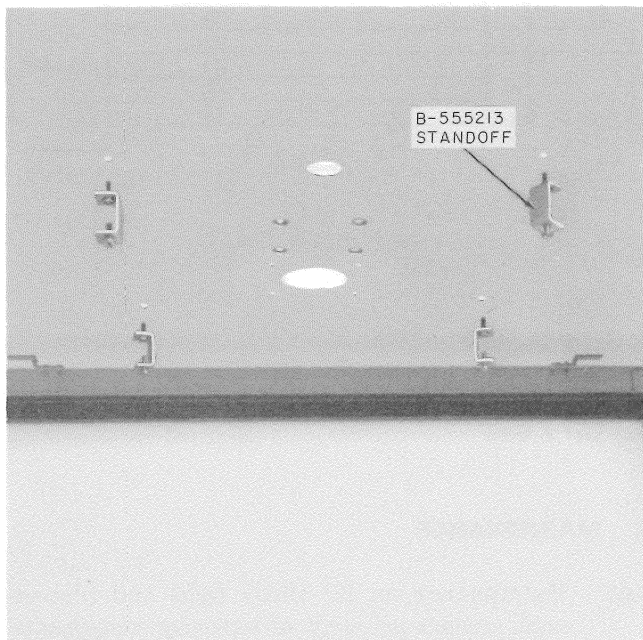

Fig. 10—Installation of B-555213 Standoffs
- (g) Install four B-555213 standoffs (Fig. 10) (furnished with light fixture) in the holes vacated by the light fixture mounting screws.